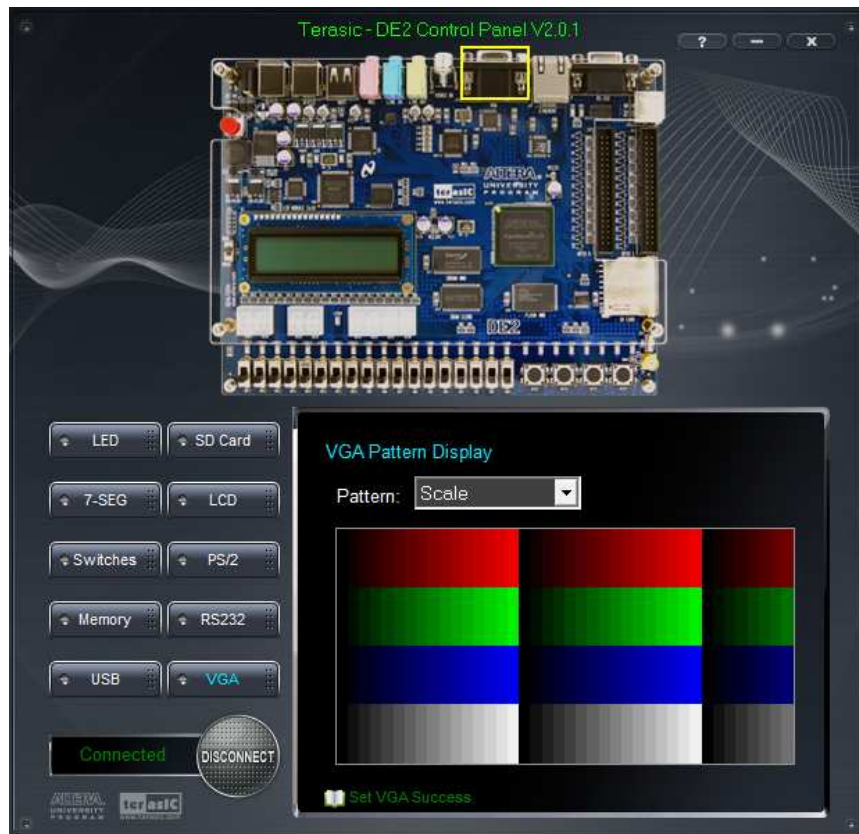

Figure 3.12. Controlling VGA display.
1. Choosing the VGA tab leads to the window in Figure 3.12.
4. Click the drop down menu shown in Figure 3.12 where you can output the selected color individually.